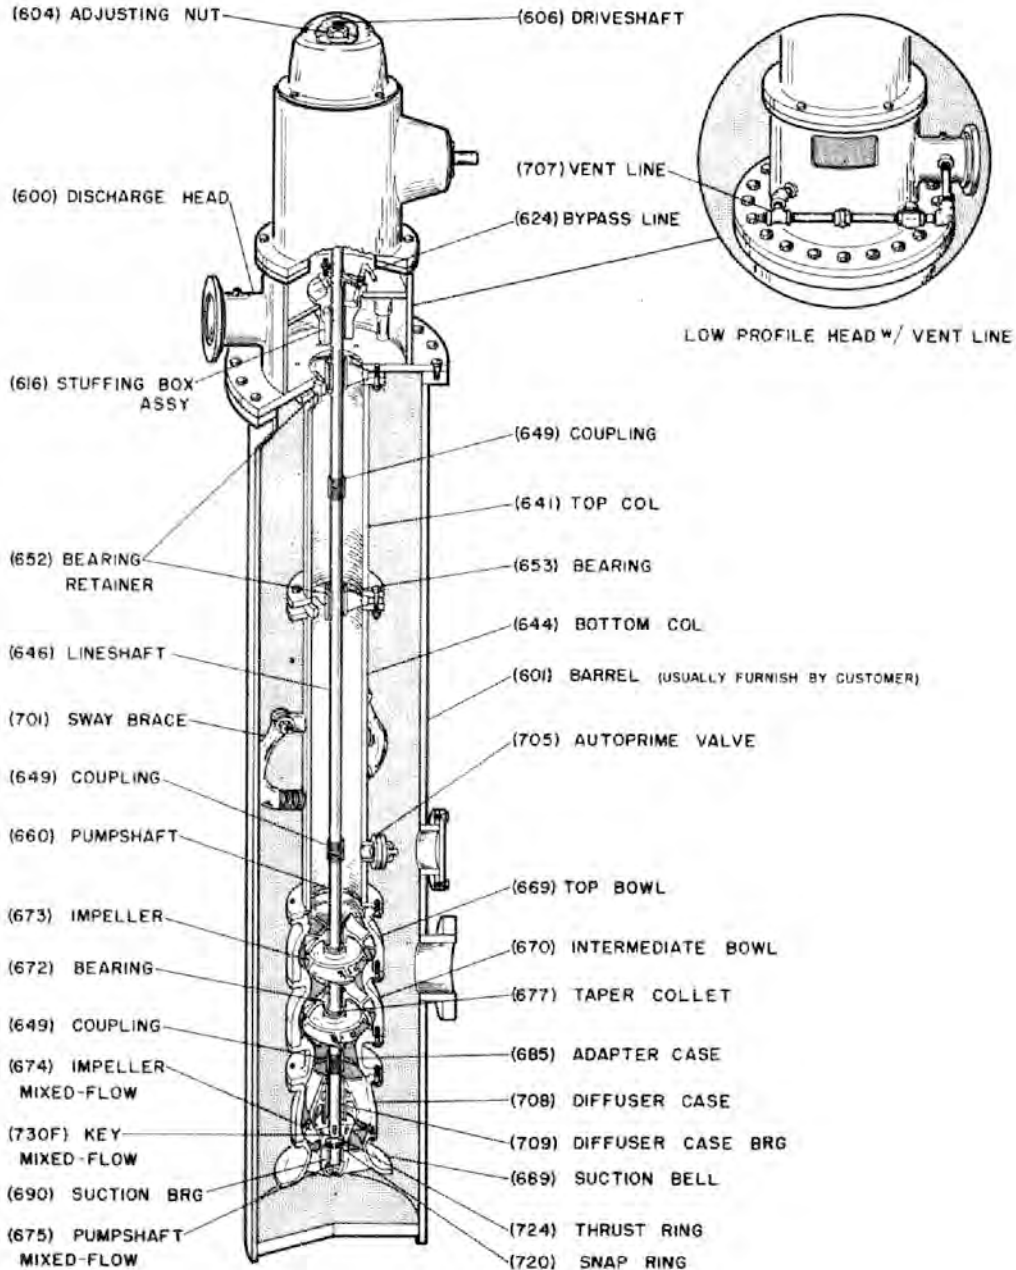

Figure 2: Typical VMP autopriming pump
1. Check lineshaft (646) for straightness, refer to 5.3 Installing a completely assembled pump on page 14, Step 1. Apply a thin film of oil to lineshaft and coupling (649) threads (if non-galling material). Start thread manually until resistance is felt. Complete the joint utilizing a pair of pipe wrenches, butting the bottom of the lineshaft against the top of the pumpshaft (660). Use care not to apply wrenches on bearing journal surfaces. (See Figure 2: Typical VMP autopriming pump on page 16)
There are two configurations of discharge heads. The discharge head shown in Figure 2: Typical VMP autoprime pump on page 16, is a low profile head, a high profile head is shown below. The high profile head may be fabricated with a Goulds primacylamatic tank welded on. Install the discharge head as follows: